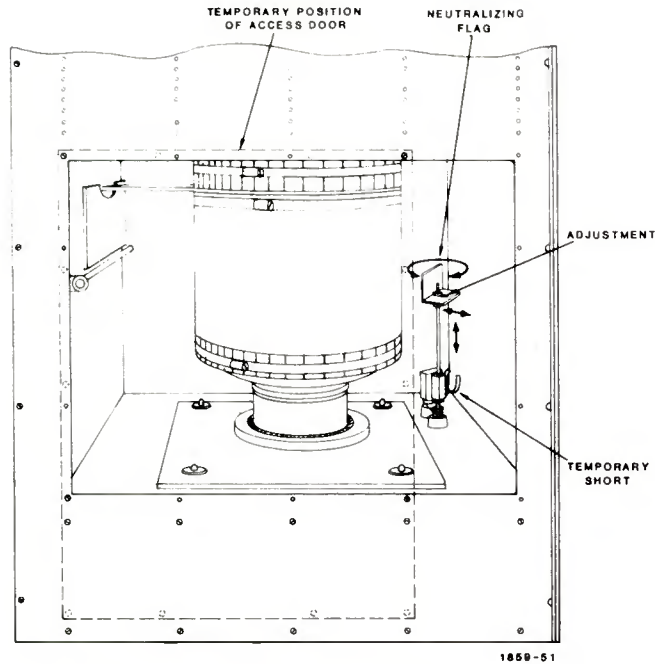

Figure 2-7. FM-25K Neutralizing Flag
- m. Using figure 2-7 as a reference connect a temporary short of copper strap or jumper wire between the bottom of the rod supporting the neutralizing flag and the PA deck.
- t. Temporarily place the PA access door over the access port as shown by the dotted lines in figure 2-7.
As shown in figure 2-7 the neutralizing flag may be adjusted in three planes. The nuts holding the flag must be loosened prior to movement of the flag. The transmitter has been neutralized at the factory with the tube that was shipped with the transmitter. Initial adjustment should only require movement of the flag within the adjustment slot.